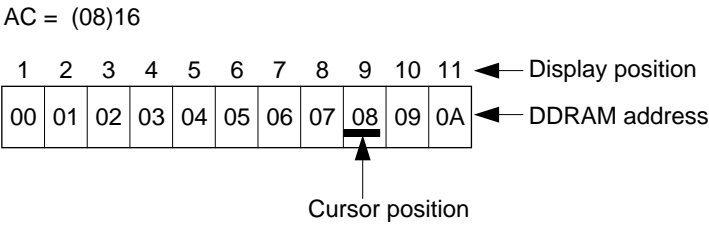

Figure 10 Cursor/Blink Display Example
For example (figure 10), when the address counter is (08)H, a cursor is displayed at a position corresponding to DDRAM address (08)H.